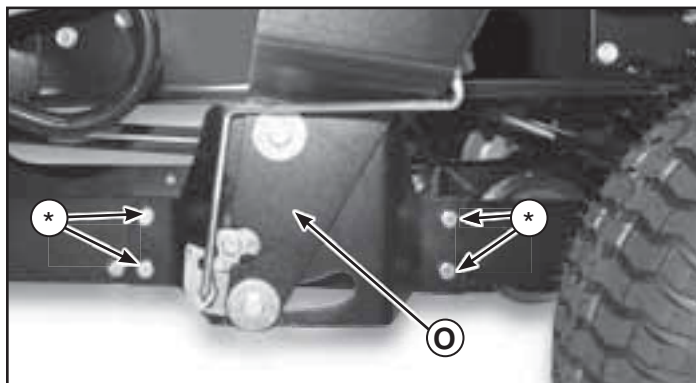

Figure 13
2. Attach lift arm assembly (O, Figure 13) to the tractor frame using the four hex bolts (*) and nuts from the previous step.